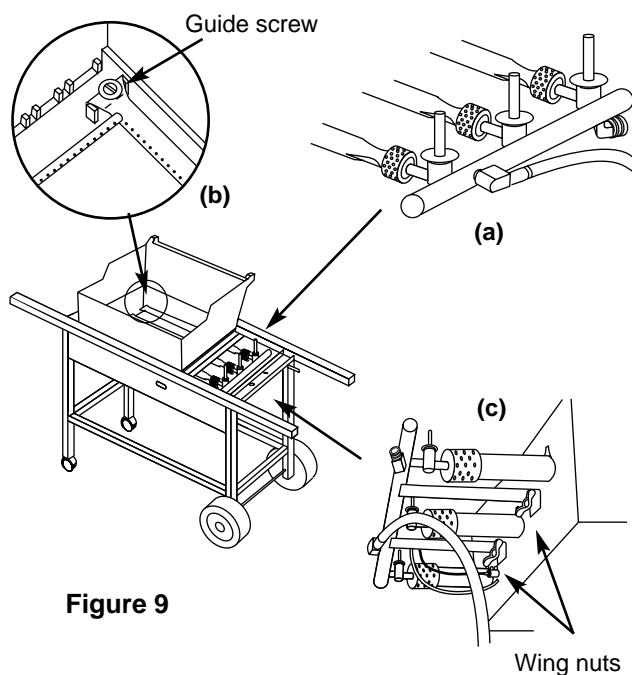

Figure 9
- Do the valves fit into the ends of the burners? Figure 9 (a).
- Are the ends of the burners under the washers at the left rear and left front of the cooking box? The screws are only guides. Do not tighten. Figure 9 (b).
- Are the wing nuts under the burner assembly hand tight? Do not tighten with pliers. Figure 9 (c).